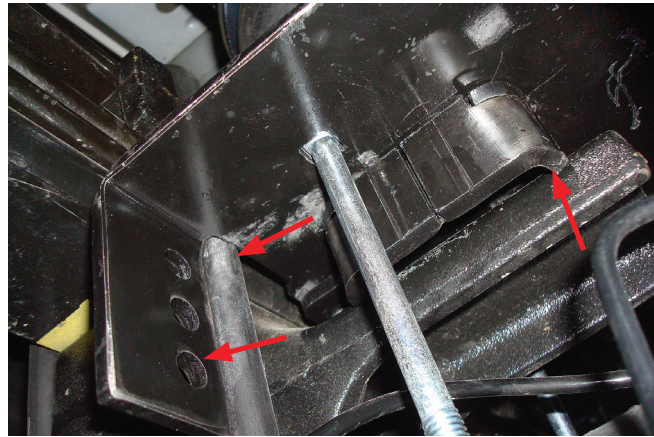

Fig. 30
- Once assemblies are in position on the jounce bumper strike plate or axle, push the lower bracket so that it is flush against the leaf spring stack and both flanges on the lower bracket are locked around the stock U-bolts (Fig. 30).